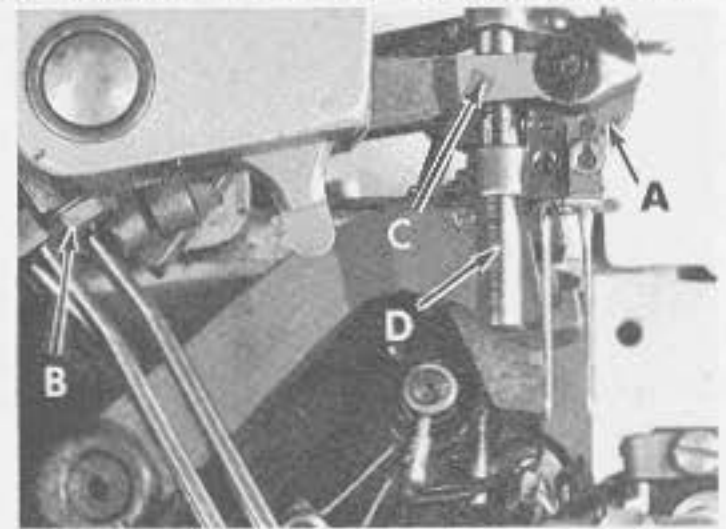
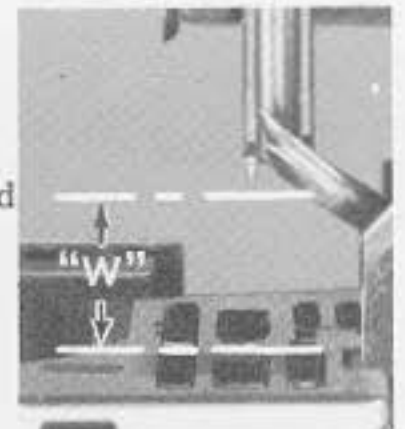

Fig. 6
Fig. 7
With throat plate assembled in position, the needles should center in the throat plate needle slots (left to right). The needle head (A, Figs. 5 and 6) can be repositioned by loosening set screws (B, Fig. 5) and binder screw (B, Fig. 6) in needle drive lever (C, Figs. 5 and 6); then; simultaneously turning needle head guide bar (D) which is an eccentric and sliding the needle drive lever (C) to the left or right on needle rock shaft as required to alleviate bind.
When proper left to right needle position is obtained, tighten set screws (B, Fig. 5) securely and tighten screw (B, Fig. 6) lightly.
Needle Drive lever (C, Fig. 5 and 6) must also be positioned to set height of needles above throat plate which should be $\frac{7}{16}$ inch (11.11 mm) on Styles 39800 CA and CB; $\frac{17}{32}$ inch (13.49 mm) on Styles 39800 CP, CQ, CX, CY, VCP, VCQ, VCX, VCY with needles at top of stroke (W, Fig. 7). Tap the needle drive lever (C, Figs. 5 and 6) lightly up or down to obtain desired needle height. Needle gauge No. 21227 DD can be used by placing it on top of the throat plate and bringing the needle head bottom to rest on top of the gauge. This will have the needles at the bottom of their stroke. Note that the gauge has separate heights, one for high, the other for low capacity machines. Tighten screw (B, Fig. 6) securely.